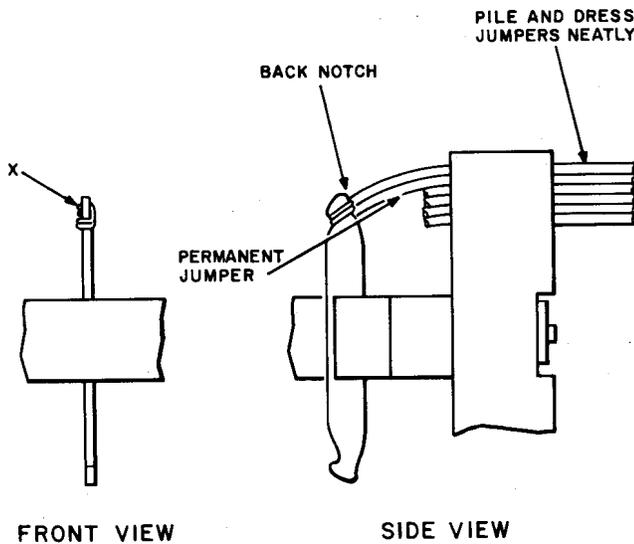

Fig. 15—Temporary Cross Connections on 35- or Similar-Type Terminal Strip With Back Notch Terminals
9.10 On terminal strips without extra terminals where the terminal has a back notch (Fig. 15), route the jumper along the top of the permanent jumper, through the notch, along the right side of the terminal and through the back notch and solder. Cut or break the wire at point X.